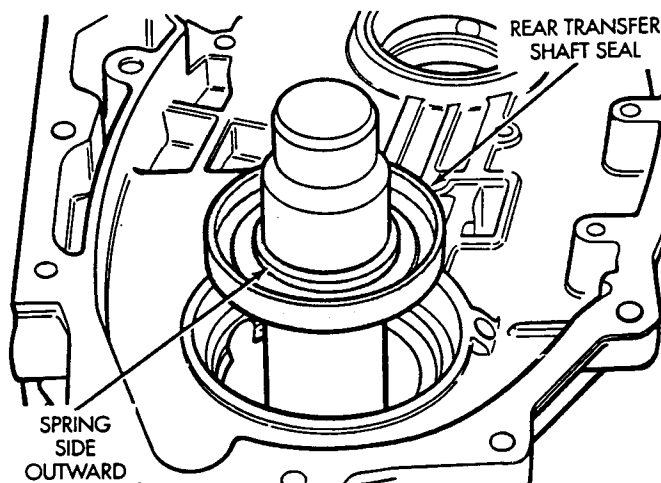

Fig. 28 Correct Seal Orientation
(32) Install rear transfer shaft seal. The seal must be installed so that the spring side of the seal faces the installation tool (Fig. 28). Use the same special tool (6567A) to install the seal. The installation tool will set the seal depth. Use a press to install this seal. Do not use a hammer.